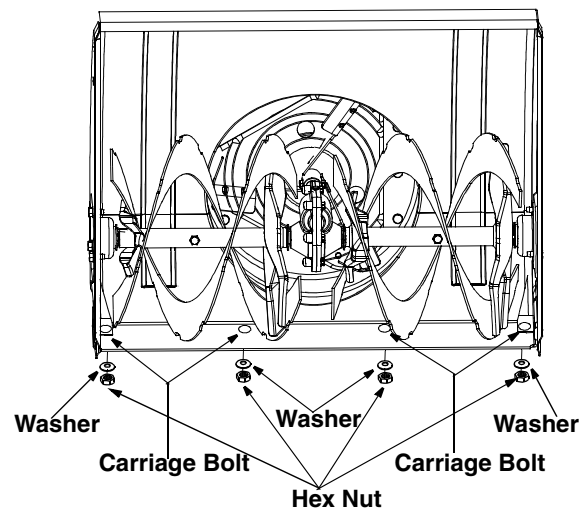

Figure 24
- To remove shave plate, remove the skid shoe first. Next remove carriage bolts, belleville washers and hex nuts which attach shave plate to the snow thrower housing. For location of shave plate, see Figure 24.
- Reassemble new shave plate, making sure heads of the carriage bolts are to the inside of the housing. See Figure 24. Reinstall skid shoe. Tighten all hardware securely.